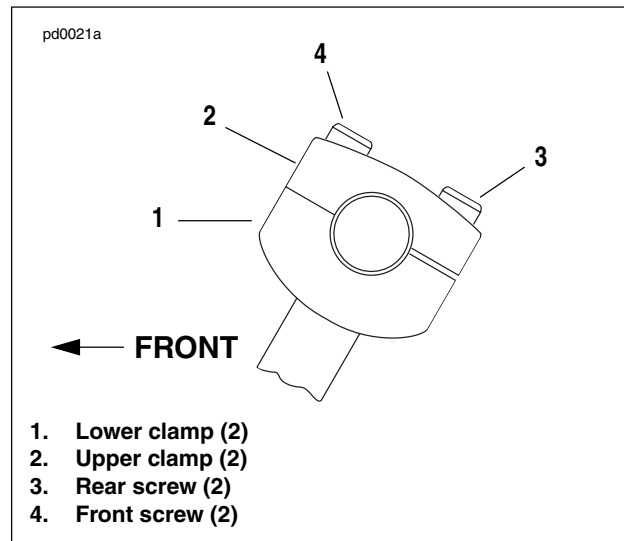

Figure 1-12. FLHT/C/U and FLHTP Models
2. See Figure 1-12. Loosen two rear screws (3) of handlebar upper clamps (2).
3. If there is a gap between either handlebar lower clamp (1) and upper clamp at front, tighten front screw (4) only enough to close gap. If handlebars do not move up and down freely, loosen rear screws until they do.